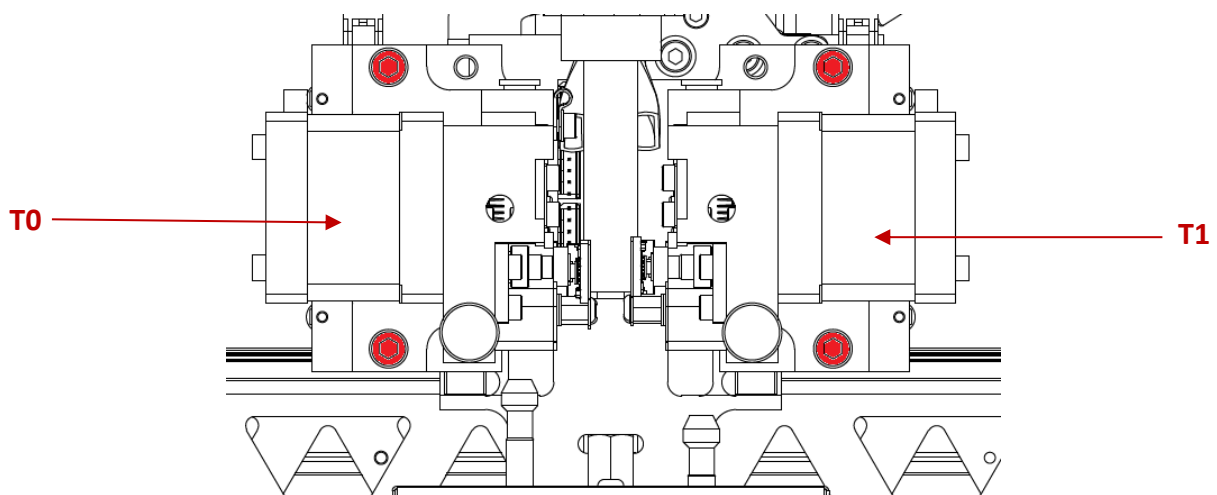

Fig. 86 Removing extruders
12. Unscrew two screws securing the T0 extruder to the extruder seat, located above and under the extruder (Fig. 86) and remove the extruder from the printer. Put the screws aside. Repeat the same procedure for the T1 extruder.
15. Tighten the previously unscrewed two T1 extruder fixing screws securing the extruder to the extruder seat, located above and under the extruder (Fig. 86).
17. Unscrew two extruder fixing screws securing the T0 extruder to the extruder seat, located above and under the extruder (Fig. 86).